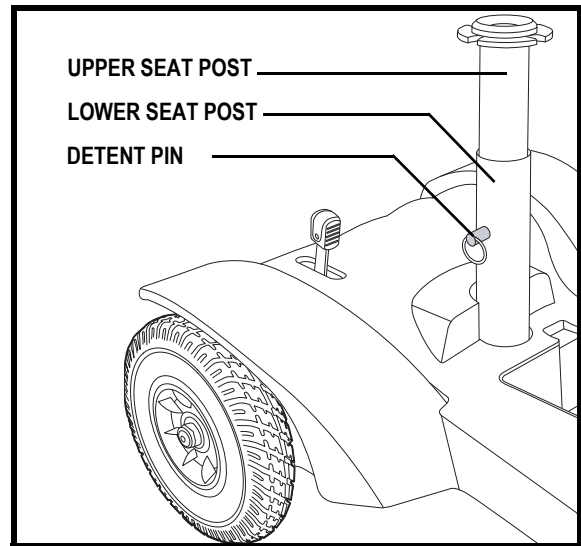

Figure 9. Seat Height Adjustment
2. Use the attached ring to pull and remove the detent pin from the lower seat post. **See figure 9.**